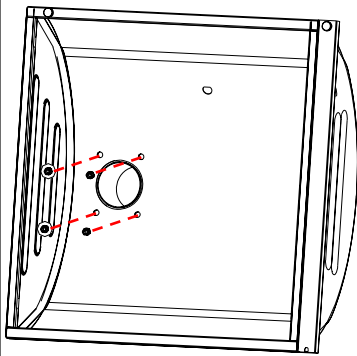
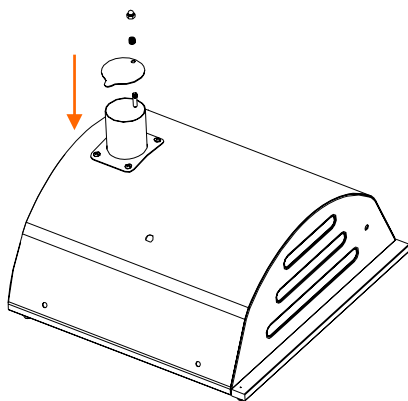
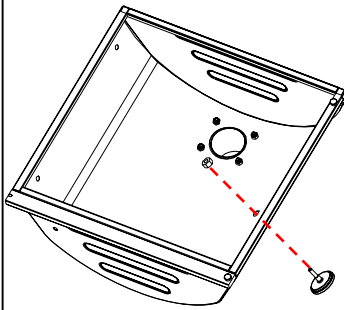
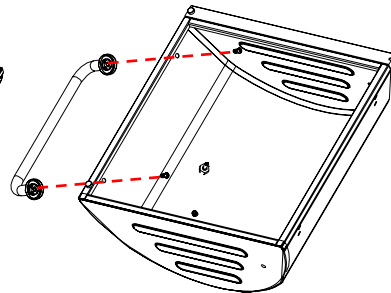

Fig. 17A
Fig. 17C
Fig. 17D
Fig. 17E
Refer to Fig. 17A and 17B Insert the Smoke Stack Assembly from INSIDE the Lid and fasten it to the Lid with (4) M6x15 bolts and KEPS nuts. NOTE: the bolts are inserted from the OUTSIDE of the Lid. Refer to Fig. 17C . Place the Smoke Stack Lid onto the threaded stud , add the small spring and then fasten with the Cap nut tight enough that the Lid can be rotated to open and close the Smoke Stack. Refer to Fig 17D and unscrew the nut from the stem of the Heat Indicator and follow the same procedure as before to install it to the Charcoal Grill Lid. Refer to Fig. 17E and attach the Lid Handle to the Lid with (2) M6x15 bolts.